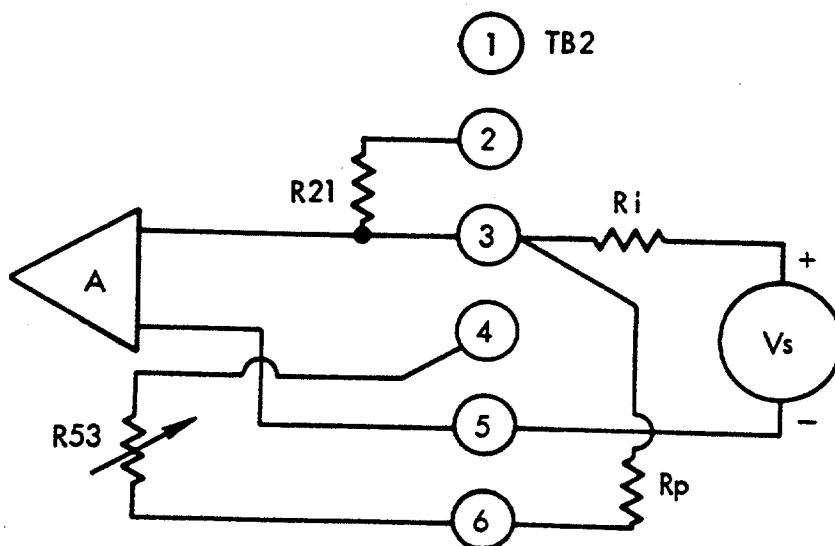

Figure 3-2 Variable Gain
b. Variable Gain (Figure 3-2)
- 3) Place  $R_i$  (1.78K suggested) in series with the signal source and connect as shown in Figure 3-2 between TB2-3 and TB2-5, observing the proper polarity.